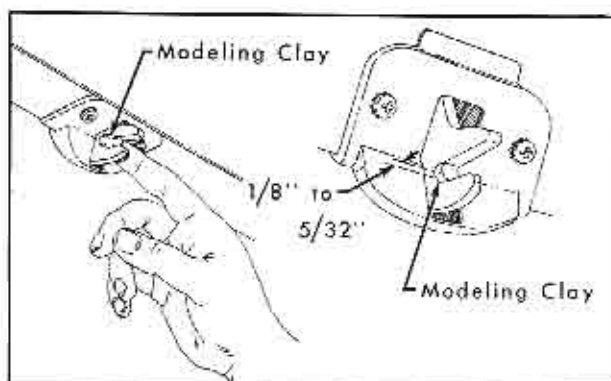

Fig. 3-83 Checking Deck Lid Lock Adjustment
1. Check the engagement of the deck lid lock with the lock striker by inserting a small amount of modeling clay at the bolt slot, Fig. 3-83, and closing the lid with a moderate pressure.